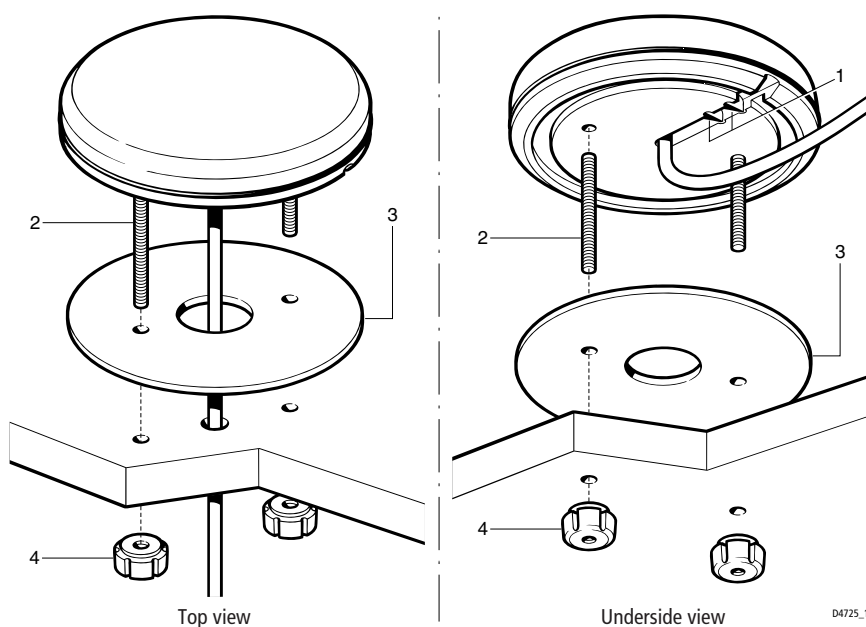

Figure 5-2: Surface Mounting Arrangement
- To surface mount the antenna, referring to *Figure 5-2*: